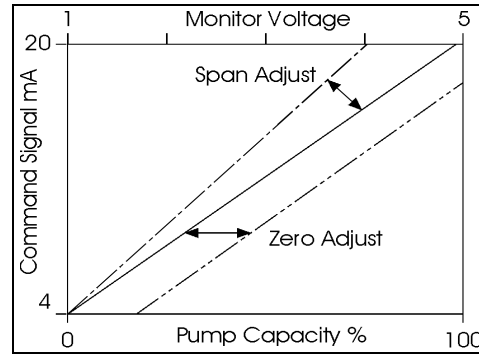
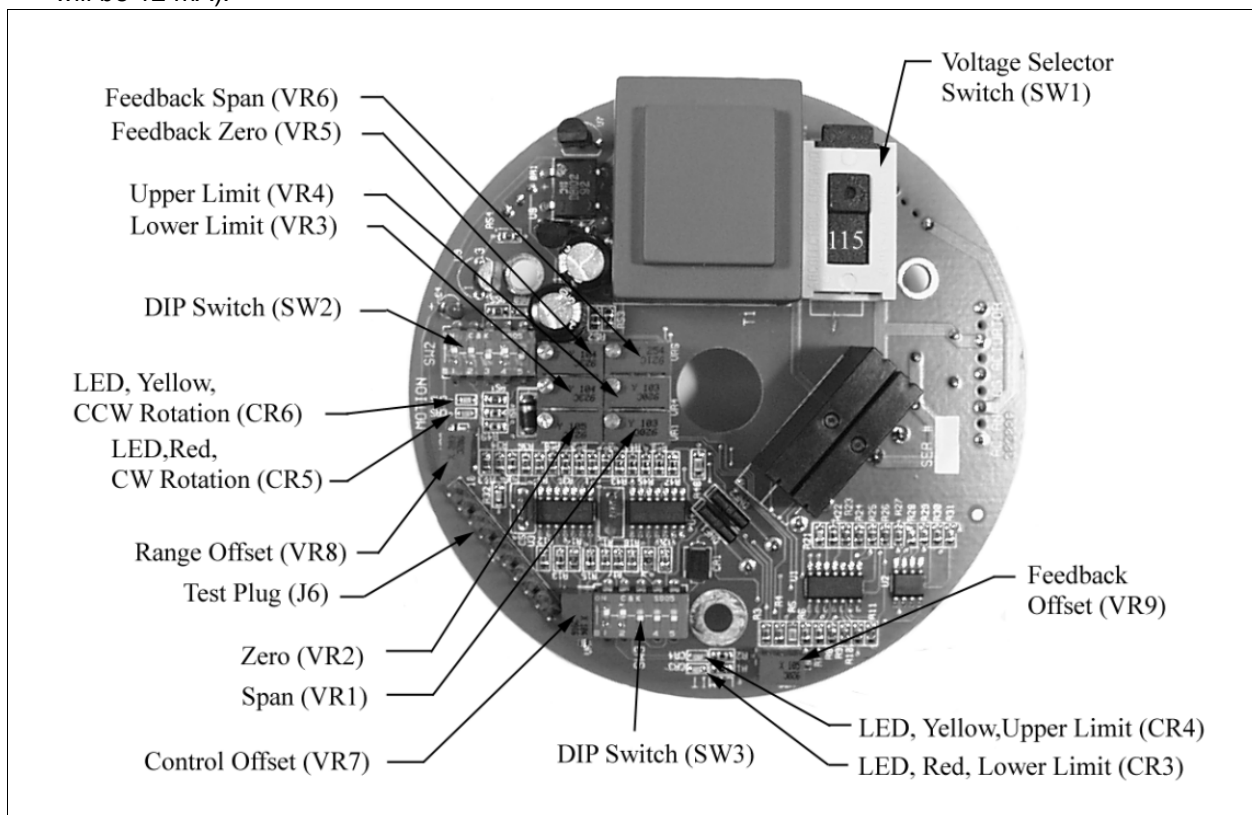

Figure 9. Effect of Zero & Span Controls.
Figure 11. Circuit Board, Top.
Voltage selector switch SW1 (Figure 11), located on top of the circuit board, is a two-position switch used to configure the ECC for an input of 115 VAC or 230 VAC. Insure SW1 is set to the voltage listed on your data plate (Figure 1 or 2), attached to the enclosure. **The factory sets SW1 for the model ordered and should not be changed.** If the operating voltage must be changed, contact the Milton Roy factory at (215) 441-0800 for conversion parts and instructions.
- 5. Voltage selector switch SW1 (Figure 11), located on top of the circuit board, is a two-position switch used to configure the ECC for an input of 115 VAC or 230 VAC. Insure SW1 is set to the voltage listed on your data plate (Figure 1 or 2), attached to the enclosure. The factory sets SW1 for the model ordered and should not be changed. If the operating voltage must be changed, contact the Milton Roy factory at (215) 441-0800 for conversion parts and instructions.
- Adjusting the span control, VR1, Figure 11, determines the maximum travel of the ECC over the full range of the command signal.
- Adjusting the zero control, VR2, Figure 11 shifts the position of this travel (Figure 9).
First remove the cover from the ECC. On the ECC-circuit board, Figure 11, are four lights and four small trim potentiometers. The lights are in pairs. The pots are for zero, span, upper limit, and lower limit adjust.
3. Locate the “Zero” (VR2) and “Span” (VR1) adjust controls on the printed circuit board (PCB) shown in Figure 11.